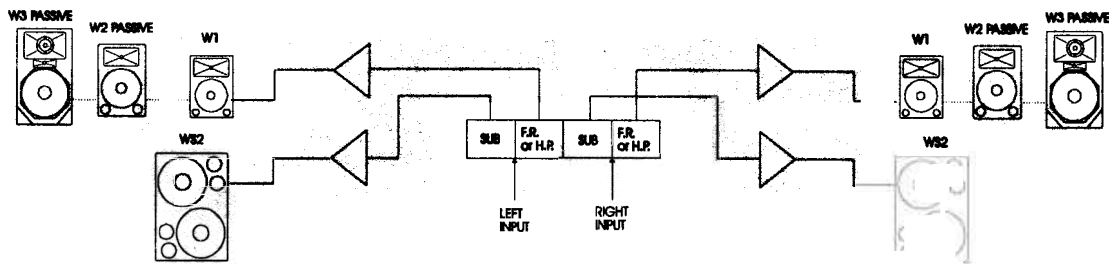

FIG. 8 W1, W2 or W3 Passive with Sub Bass Operation using WX3ASF Card
The WX3ASF may also be used to drive a sub-bass system to augment the W1, W2 and passive W3 systems (see Fig 8). The WX3A is normally operated in 100Hz high-pass/crossover Mode (2) (see Section 6.3) for this configuration, although it may be operated in Overlap Mode (3) if overlap is required for flown systems. Full-range Mode (1) should only be used with care, in special cases where distant flown systems are required to run full-range. Some cancellation may occur if the W1, W2 and W3 are located in close proximity to the sub-bass enclosure. However, this cancellation may simply be resolved by reversing the phase of the W1, W2 or W3.